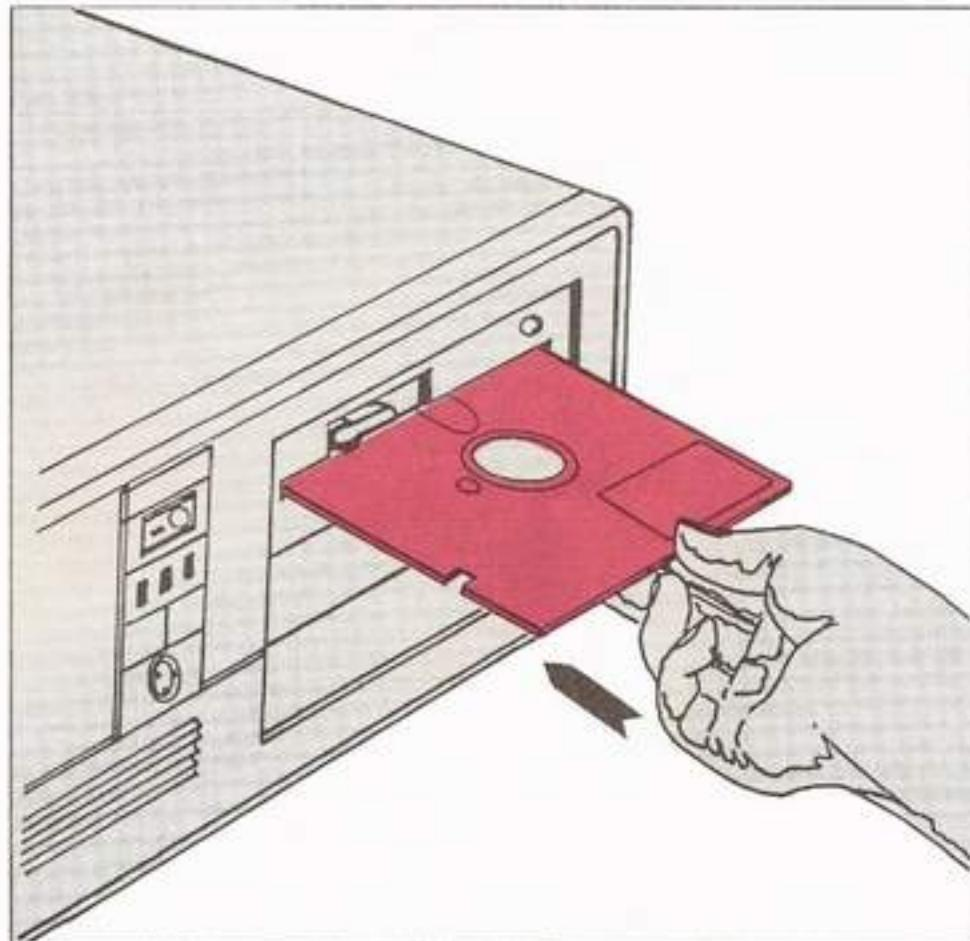

Fig. 13: Inserting a Floppy Disk
- _____ d. Carefully insert the floppy disk into the slot of the drive door, as shown in Fig. 13. The edge closest to the exposed disk surfaces goes in first. There are two small notches which flank the oval openings in the disk envelope.